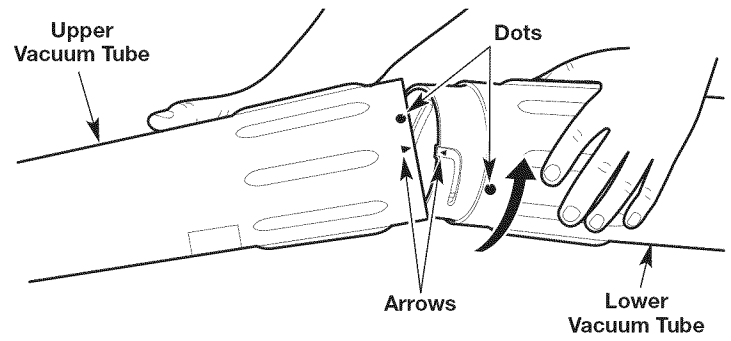

Fig. 8
1. Align the arrow on the lower vacuum tube with the arrow on the upper vacuum tube (Fig. 8).
2. Insert the lower vacuum tube into the upper vacuum tube (Fig. 8).
3. Twist the lower vacuum tube clockwise with both hands until it locks into place (Fig. 8).
**NOTE:** When properly assembled, the dot on the lower vacuum tube should align with the dot on the upper vacuum tube (Fig. 8).